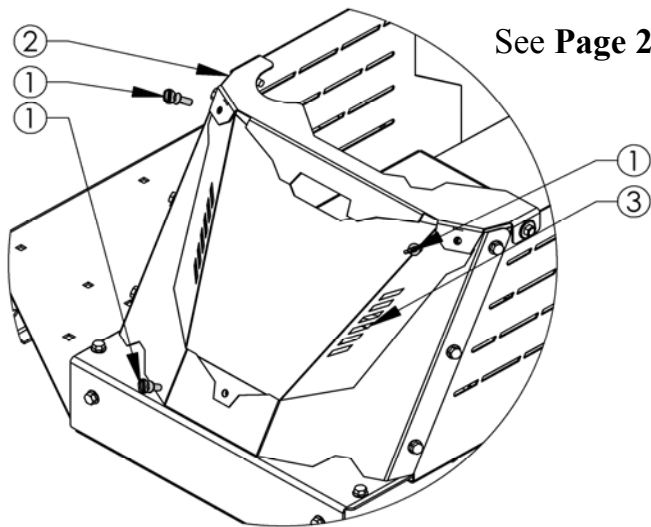

FIGURE 15.1
- Remove the three Thumbscrews ① holding the Battery Cover as shown in **Figure 15.1**.